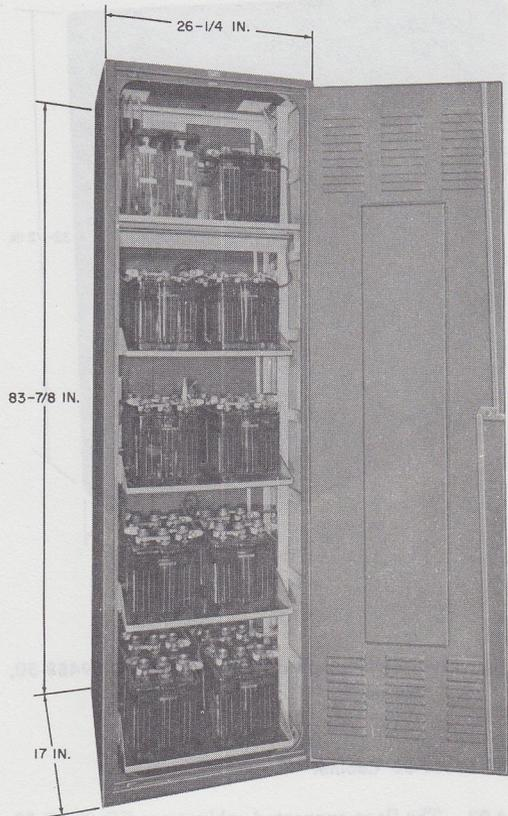

Fig. 16—45-Plate Apparatus Cabinet per ED-91981-70
4.07 The 45-plate apparatus cabinet per ED-91981-70* (Fig. 16) is a metal cabinet with a hinged door in front and back. The cabinet is drilled for floor mounting. It is shown in Fig. 16 as a housing for storage batteries.